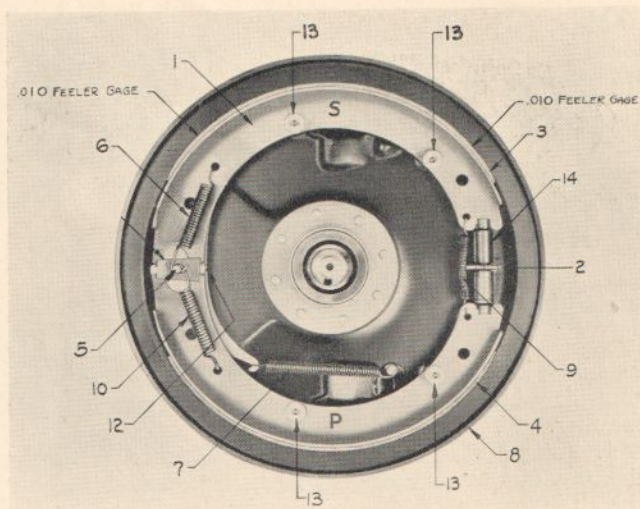

Fig. 4 LEFT BRAKE
(b) Adjust clevis until pin can be easily entered through clevis and cross shaft lever holes, meanwhile pulling tightly by hand on the cable to remove all slack. (12) (Fig. 4).
Illustrated in (Fig. 4) is a wheel side view of a left front brake with drum removed. In performing the re-assembling of brake shoes (3) and (4) into their proper location on the backing plate (8) where two different types of brake lining are used in the same brake, it is necessary that the linings and their respective shoes be assembled in a definite location. The brake shoes shown in (Fig. 4) are marked by the letters "S" and "P" abbreviating the words secondary and primary. Irrespective of the position in which the brake assembly is mounted to the axle the primary brake shoe is always the one that comes in contact with the brake drum first during a forward braking application to transfer servo movement to the secondary shoe.